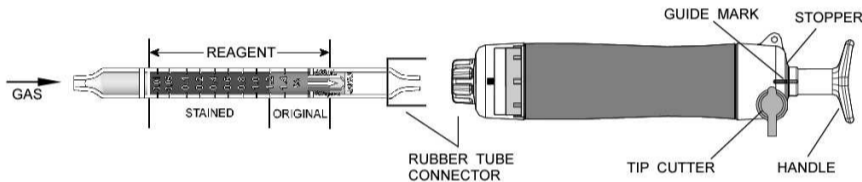

Fig.1
- ② Insert the detector tube into the aspirating pump securely as shown in Fig.1. (Arrow mark shall point to the pump.)
- ③ Align the guide marks on the shaft and stopper of the aspirating pump.
- ④ Pull the pump handle at a full stroke until it locks and wait for 1.5 minutes or until the completion of sampling is confirmed with the flow indicator of the pump (See descriptions about the flow indicator in the instruction manual of the pump).
- ⑤ Push back the handle without removing the detector tube from the rubber tube connector so that air in the pump will be discharged perfectly. Then repeat the step ③ ~ ④ once more.
- ⑥ On completion of sampling, read the scale at the maximum point of the stained layer.